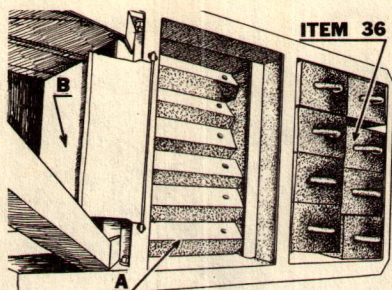

Figure 28 Compartments in Counterweight Frame
ITEM 36 - Figure 28
Raise each weight and set in place in the counterweight frame as shown (Item 36), Figure 28.
Compartment (A), Figure 28, is a place of storage for the track grousers. The grousers serve as extra counterweights.
The box, designated at (B), Figure 28, is a compartment for the storage of capscrews, nuts and lockwashers to be used when attaching the grousers.